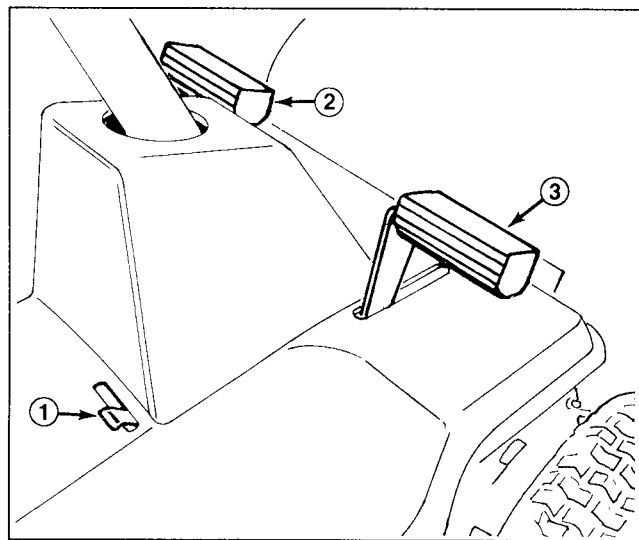

Figure 6
**Clutch Pedal** (Fig. 6) — Foot-operated clutch pedal is used in conjunction with gear shift. Depress clutch pedal fully when shifting gears. Depress clutch pedal whenever brake is used.
**Brake Pedal** (Fig. 6) — Foot-operated brake pedal must be depressed to slow down or stop the rider. When pedal is depressed, a caliper engages the brake disc on the side of the transmission. Always depress clutch pedal when using brake.
**Parking Brake** (Fig. 6) — Parking brake must be used in conjunction with brake pedal. When pedal is depressed and end of parking brake lever holds brake pedal in depressed position, a caliper engages the brake disc at side of transmission.
**Ignition Switch** (Fig. 6) — Switch has three positions: ON, OFF and START.
1. Engage the parking brake (Fig. 6): refer to using Parking Brake, page 14.
2. Move parking brake control to the left and release brake pedal until it contacts end of parking brake lever (Fig. 6).
3. To release the parking brake, depress brake pedal (Fig. 6), which will allow parking brake lever to return to its disengaged position. Then release brake pedal.